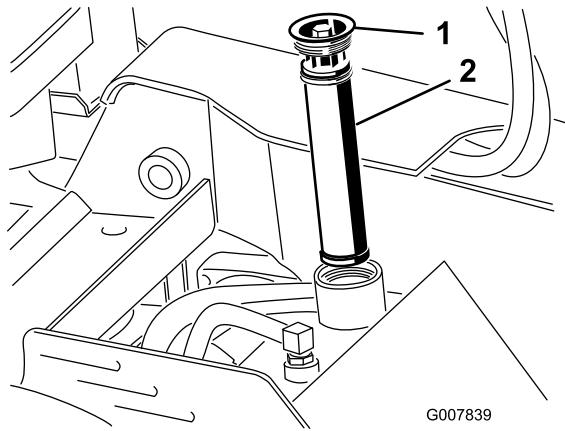

Figure 9
- A. Remove the cap/hydraulic filter from the filler neck of the hydraulic tank (Figure 9).
- D. Install the cap and filter into the filler neck (Figure 9) and torque the bolt at the top of the cap to 13 to 15.5 N m (110 to 140 in-lb).